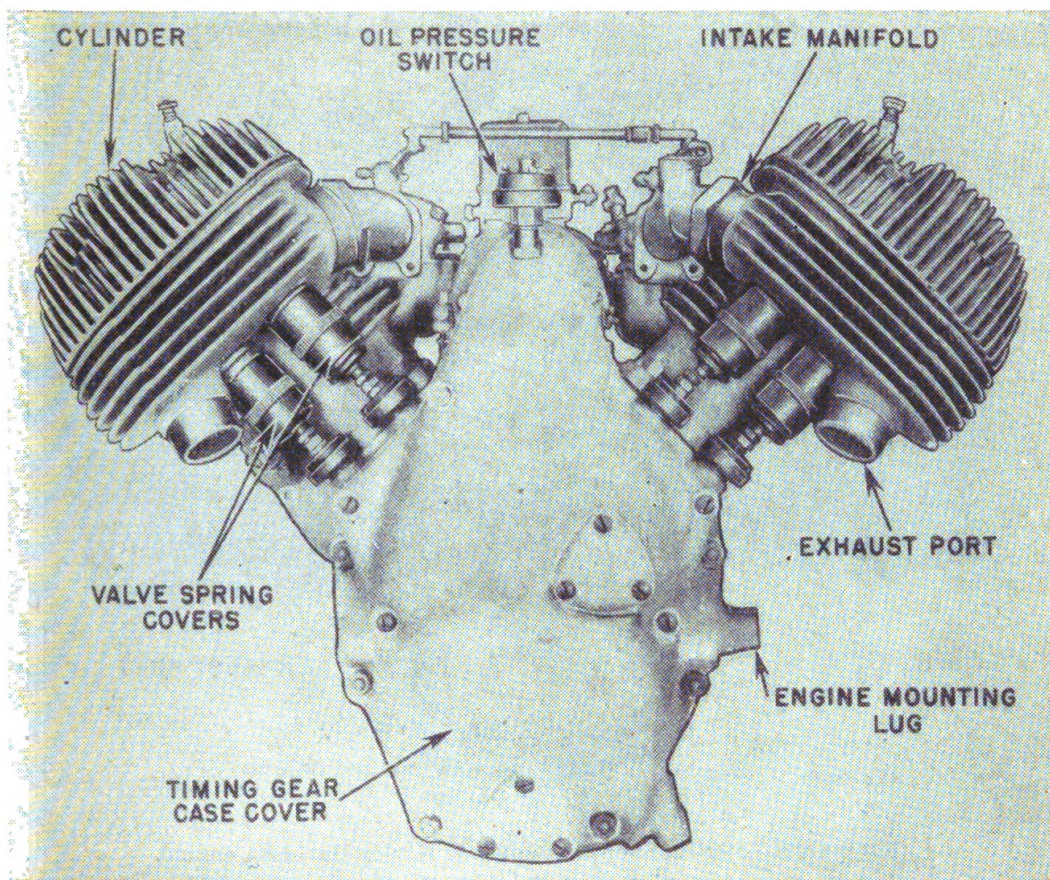
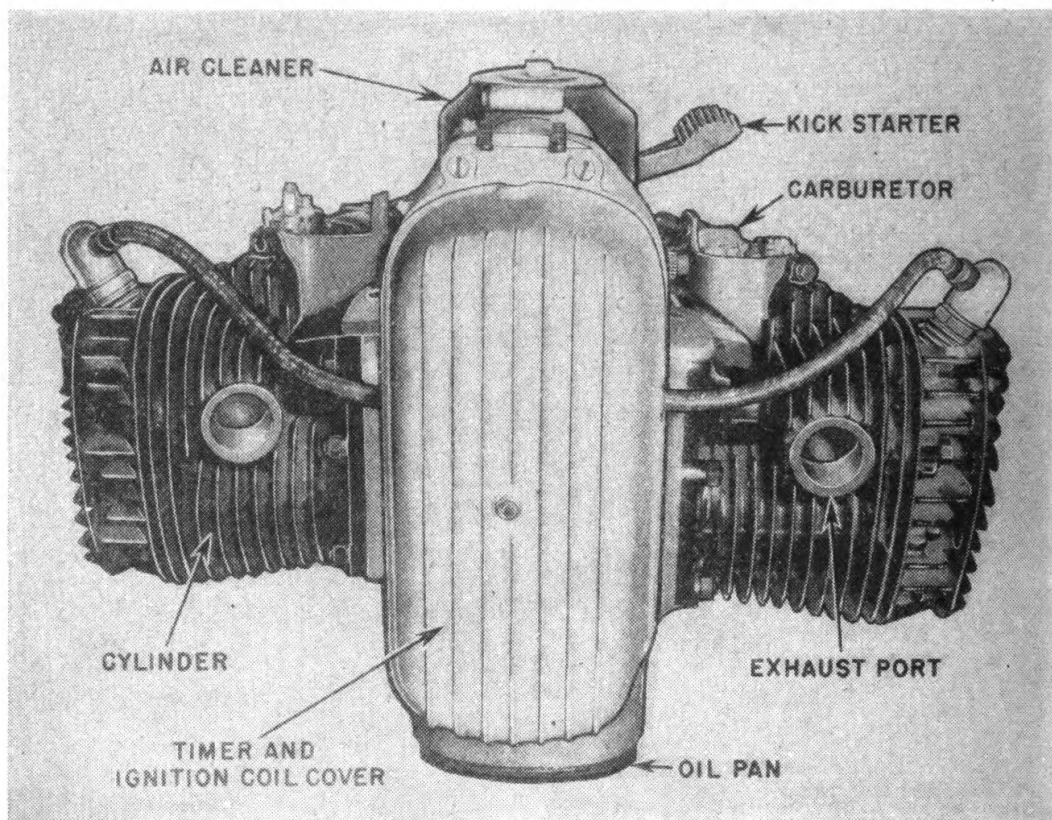

FIGURE 71.—90° V-type Indian engine.
FIGURE 72.—180° horizontally opposed Harley-Davidson engine.
**61. Crankcase, cylinders, and cylinder heads.**—*a.* The cylinders of shaft-driven models are set on the crankcase at angles different from those on chain-driven models. The cylinders on the Indian engine (fig. 71) are at right angles to each other (90°, V-type). The Harley-Davidson engine (fig. 72) has horizontally opposed cylinders (180°